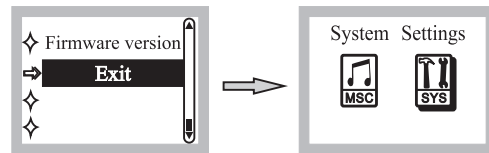

Fig. 22
(8) Exit: Return to Music & System Settings (Main Mode), Fig. 22.